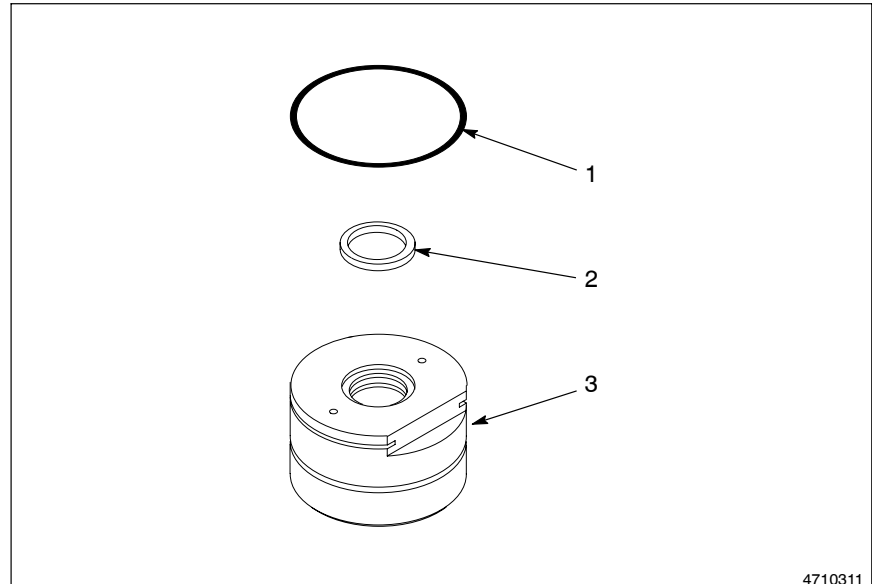

Fig. 7-44 Removing the O-ring and Packing from the Cylinder Head
1. See Figure 7-44. Remove the V-block packing (2) and Buna O-ring (1) from the cylinder head (3). Clean the cylinder head surfaces and grooves thoroughly.